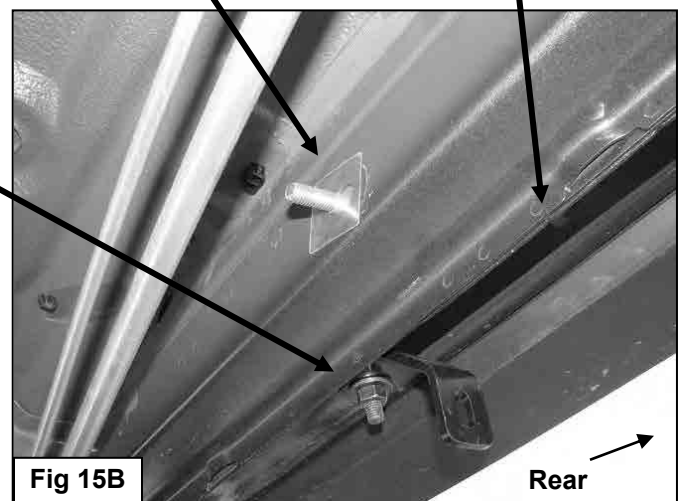

Fig 15B
12. Move along the side of the vehicle to approximately the center/back of the front door. Locate the single hole in the back of the outer frame channel, **(Figure 15B)**. Remove rubber plug if equipped. Next locate and remove the (2) rubber plugs from the bottom of the outer frame channel. Repeat **Steps 2—5** to install the (2) Bolt Plates and (1) Long Center Lock Plate to the bottom of the frame channel, **(Figures 13B & 14)**.
13. Select (1) 10mm Bolt Plate and (1) 10mm Plastic Retainer, **(Figure 13A)**. Partially thread the Retainer onto the Bolt Plate. Insert the Bolt Plate into the hole in the back of the frame channel, **(Figure 15B)**.
10mm Hex Nut, (**Figures 15B & 17**). Select the passenger side Center Bracket, (**Figure 16**). Attach the Bracket to the Bolt Plate in the back of the frame channel with (1) 10mm Flat Washer, (1) 10mm Lock Washer and (1) 10mm Hex Nut. Bolt the remaining end of the Support Bracket to the front of the Center Bracket with (1) 8mm Hex Bolt, (2) 8mm Flat Washers, (1) 8mm Lock Washer and (1) 8mm Hex Nut, (**Figure 17**). Do not tighten hardware at this time.